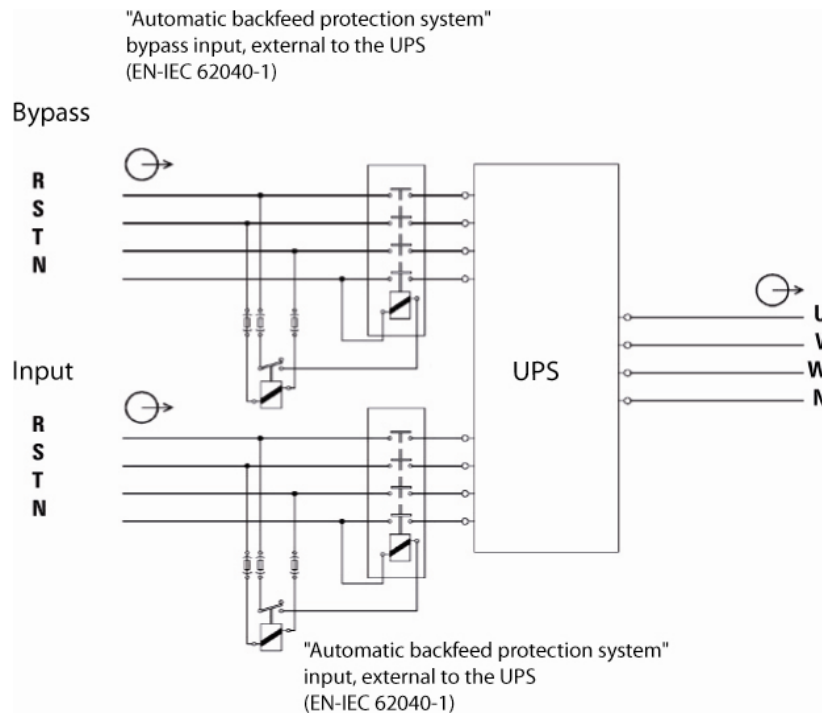

Fig.13. Block diagram for the "Backfeed protection" application, for three phase input / three phase output configuration.
For example a contactor, which will prevent the appearance of voltage or dangerous energy in the input mains during a mains fault (see figure 13)
- In accordance with safety standard EN-IEC 62040-1, the installation has to be provided with a "Backfeed protection" system, such as a contactor, which will prevent the appearance of voltage or dangerous energy in the input mains during a mains fault (see figure 13).